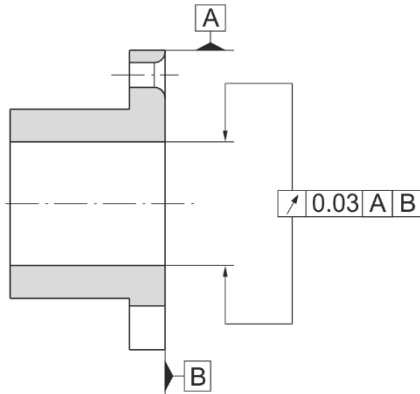

Fig. 2
- The recommended bore tolerances are to be produced using the position and tolerance width as references; at the same time, please keep to the shaft run-out and axial run-out tolerances of 0.03 mm (see Fig. 2).